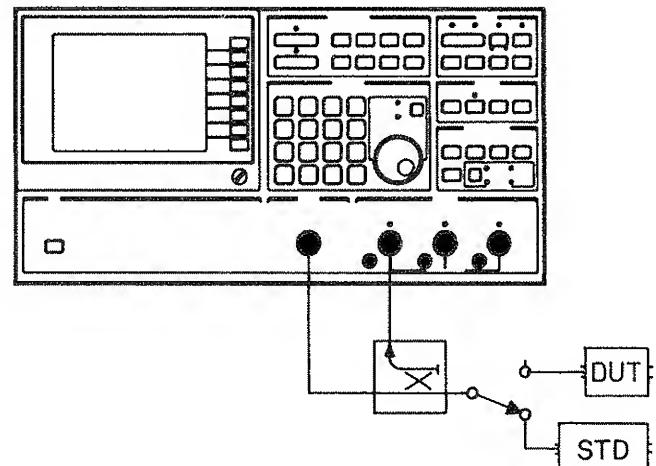

Figure 4-27
**NORMALIZE** may also be used to calibrate a reflection measurement. The configuration shown in Figure 4-27 should be used with an open as the standard. The procedure is the same as previously described except that, instead of replacing the device under test with a through, the D.U.T. should be disconnected and the connection to the directional bridge left open.